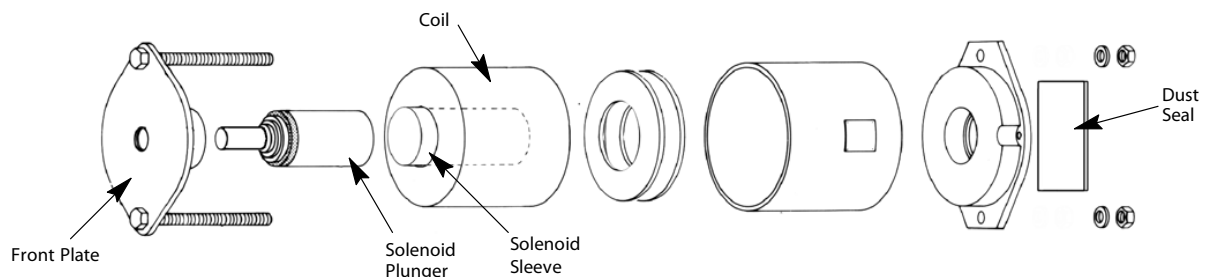

Figure 31 - Solenoid (exploded view)
- a. Remove the front plate of the brake solenoid. See Figure 31.